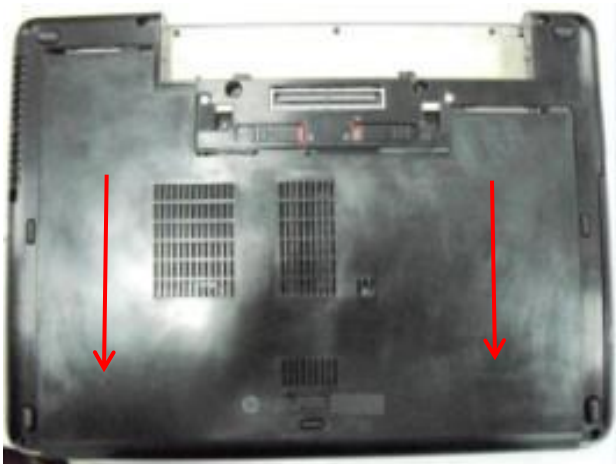

Fig.2
2. Remove the bottom cover SET (6070B0686401). (Fig.2)